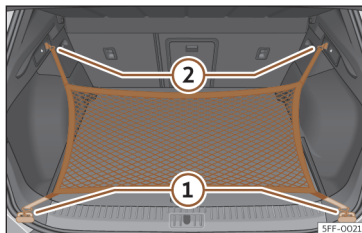

Fig. 121 In the luggage compartment: rings ① and hooks ② for attaching the net bag.
- Secure the short net hooks to the fastening rings >>> Fig. 121 ① >>> . The bag zip should be facing upwards.
- Secure the straps in the bag hooks ②.